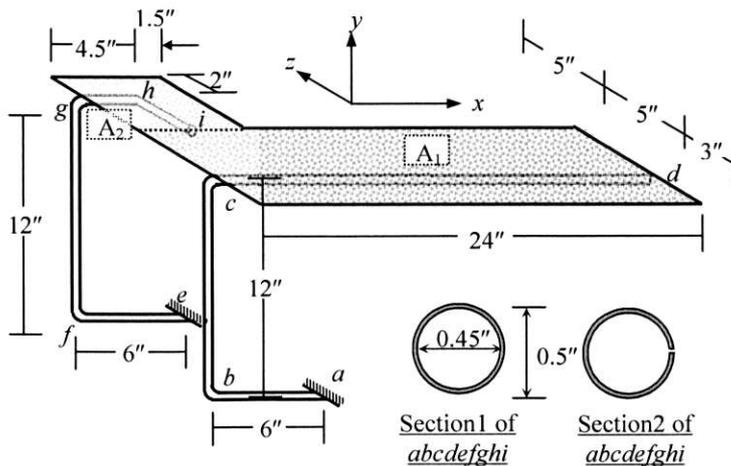

Fig. 1
1. Fig. 1 shows the frame system *abcdefghi* supporting the top of a classroom chair, which carries uniformly distributed load 1 lb/in^2 .
2. For the frame system supporting the top of a classroom chair carrying uniformly distributed load 1 lb/in^2 (as shown in Fig. 1), the frame *efghi* supports load on area A_2 only.